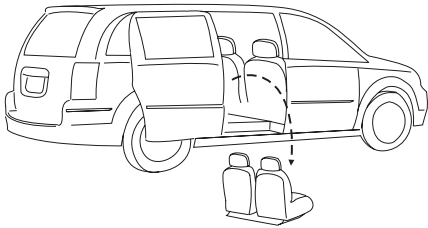

Figure 4-36
1. Remove 2nd Row Seating. *See Figure 4-36.*